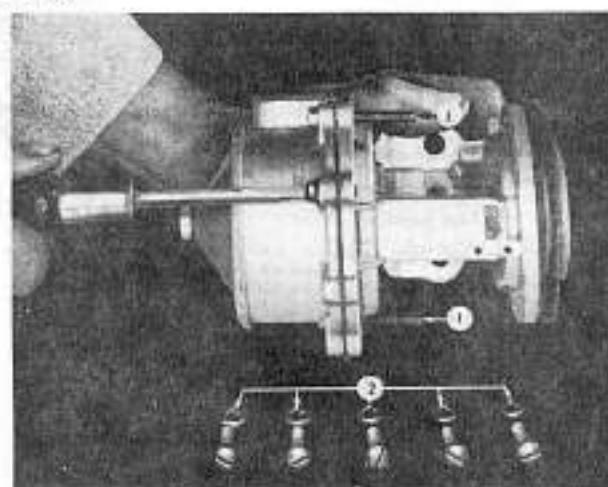

FIG. 390
Remove only two cover screws from opposite sides of the vacuum section cover and substitute for them two No. 10 — 32 x 1/2-inch fillister head screws (1, Fig. 390). Turn the two long screws all the way down and then remove the rest of the regular cover screws (2). Alternately back off the two long screws, a few turns at a time, (rap the cover with a screwdriver handle if the flanges stick together) until the force of the heavy vacuum diaphragm spring is no longer effective. Remove the two long screws, the cover assembly, diaphragm spring and spring retainer. To remove the diaphragms only, it is not necessary to remove links. The diaphragms may be unhooked from the links by tipping the end of the pull rod away from the mounting flange.